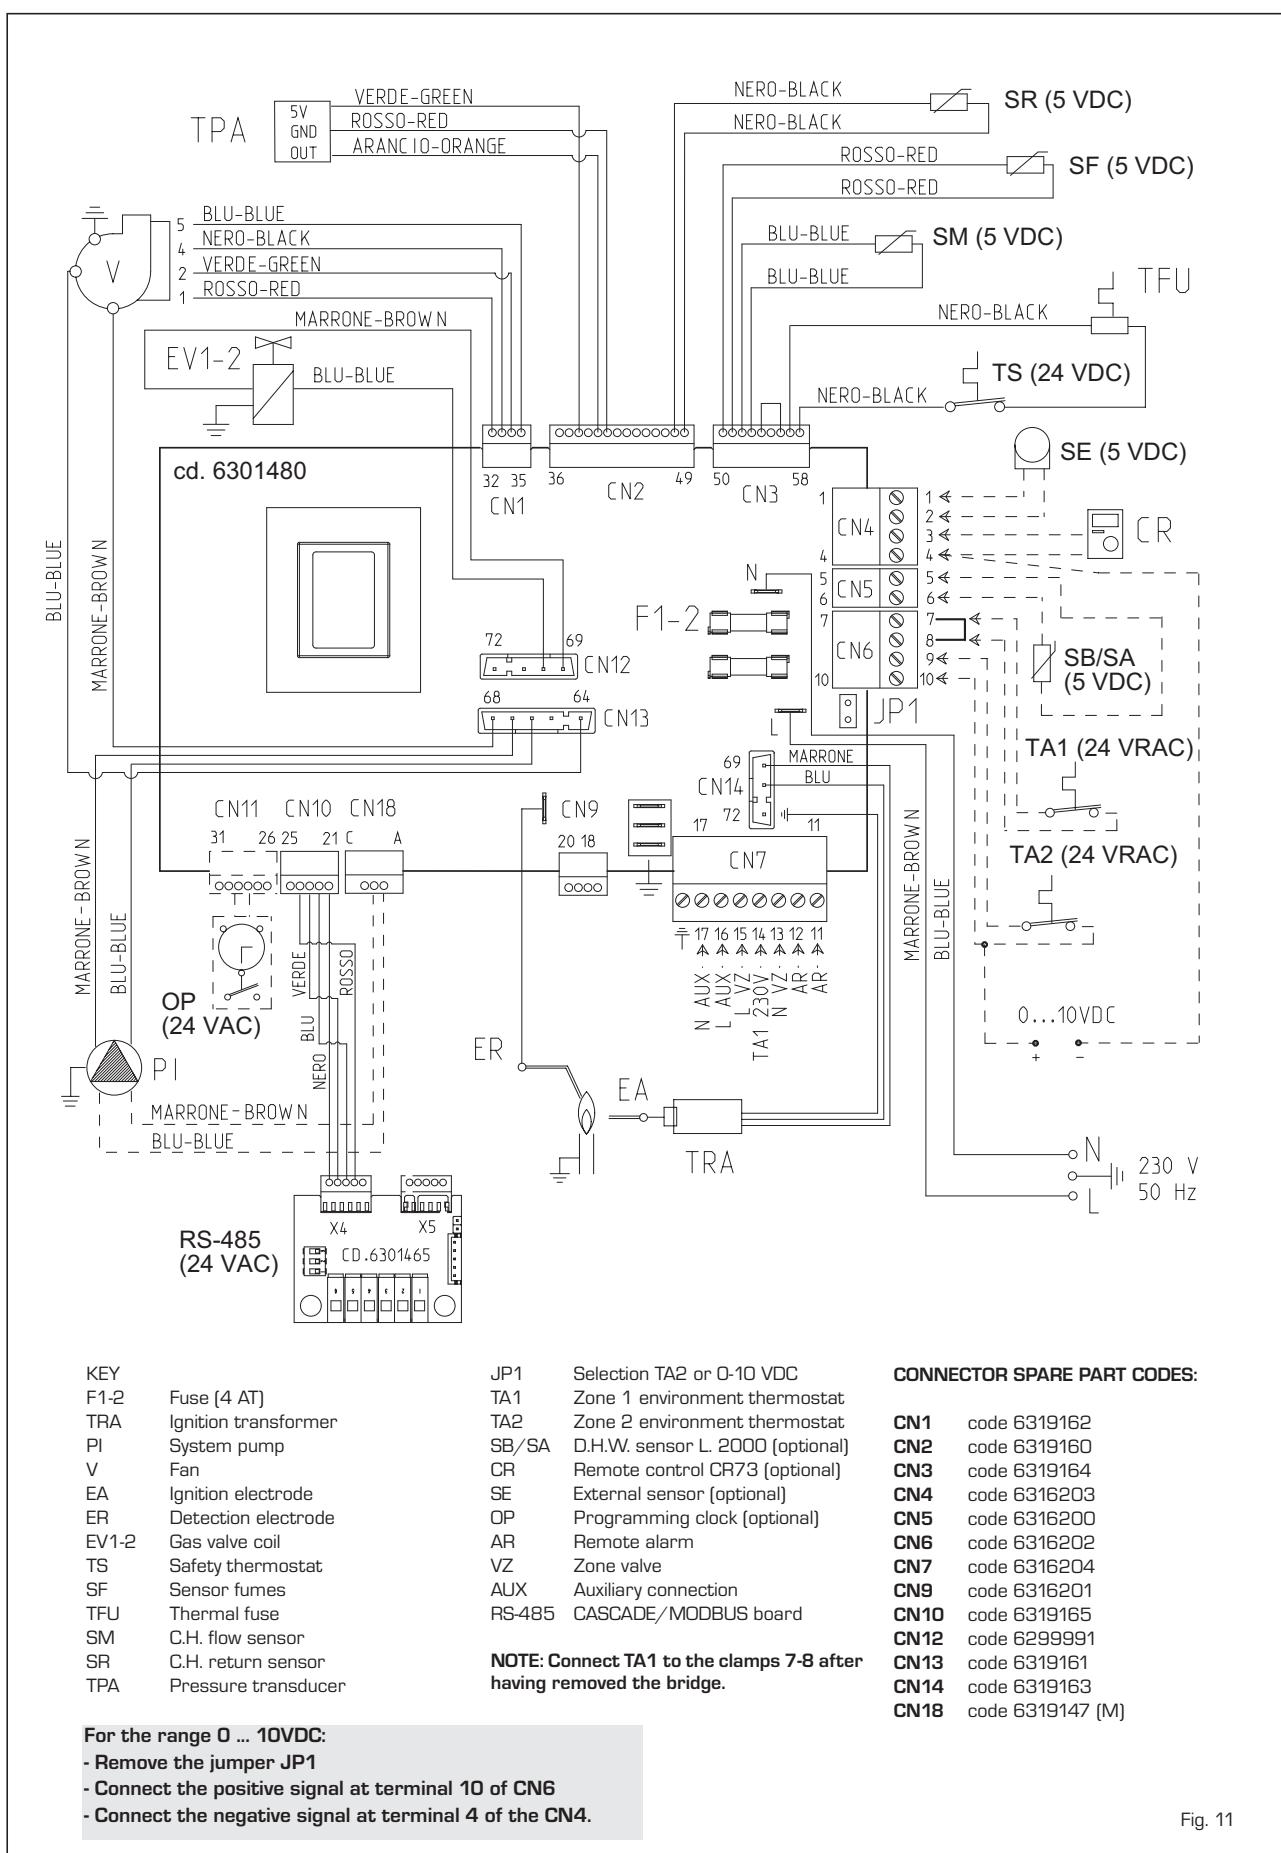

Fig. 11
Connect the chronothermostat as indicated in the boiler electrical diagram (see fig. 11) after having removed the existing bridge. The chronothermostat to be used must be of a class conforming to the standard EN 607301 (clean electrical contact).
2.7 BOILER ELECTRICAL (fig. 11)